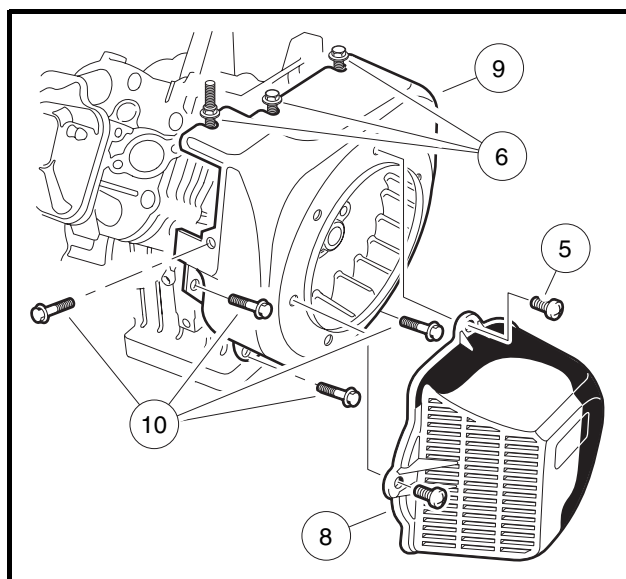
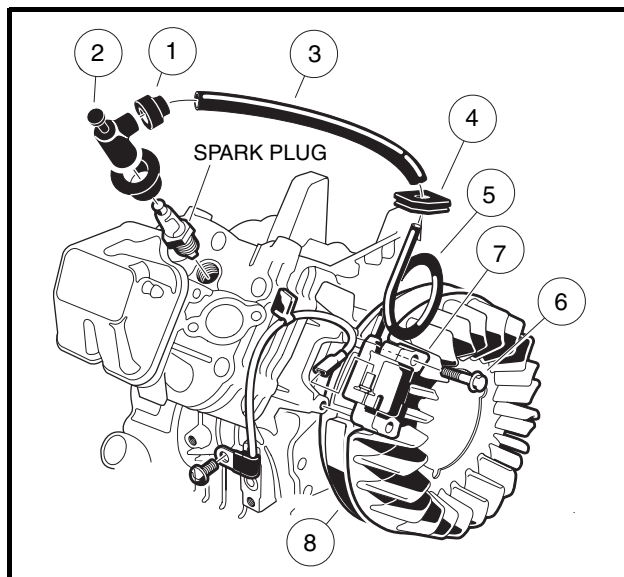

Figure 12-26 Fan Housing and Shroud Installation
Figure 12-28 Coil Installation
6. Remove the pan-head bolts (5) securing the fan shroud (8) to the fan housing (9) (**Figure 12-26, Page 12-25**).
7. Loosen, but do not remove, the three bolts (6) attaching the fan housing as shown (**Figure 12-26, Page 12-25**).
8. Remove the remaining four bolts (10) attaching the fan housing as shown (**Figure 12-26, Page 12-25**), then while opening the housing, detach the spark plug wire grommet (4) from the housing (**Figure 12-28, Page 12-26**).
1. Remove the rubber gasket (1) on the plug cap (2) by rolling back the gasket onto the spark plug wire (Figure 12-28, Page 12-26).
2. Remove the cap (2) from the wire by turning the cap counterclockwise three or four revolutions while gently pulling it off the wire.
3. Remove the gasket (1) and protector tube (3) from the old coil. **See following NOTE.**
14. Install the four remaining flange bolts that secure the fan housing to the engine crankcase. Tighten all seven mounting bolts to 90 in-lb (10.2 N·m) (**Figure 12-26, Page 12-25**).
16. Install the fan shroud with four pan-head bolts (5). Tighten to 50 in-lb (5.7 N·m) (**Figure 12-26, Page 12-25**).